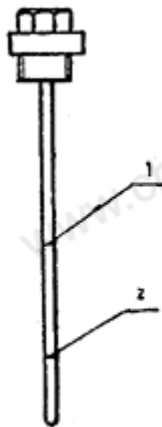

Fig.3 Schematic Diagram of Oil Dipstick in Crankcase
3.1.2.1 The oil level should be maintained between the upper and lower mark lines of oil dipstick inside crankcase (see Fig.3) To measure oil, the threaded plug should not be screwed in but be on the filler edge. The oil inside gear box and rear drive casing should be filled to start of threads of the plug.